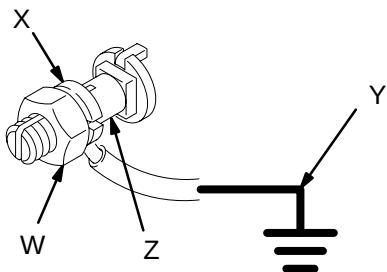

Fig. 2 _____
- **Pump:** Loosen the grounding lug locknut (W) and washer (X). Insert one end of a 12 ga (1.5 mm²) minimum ground wire (Y) into the slot in lug (Z) and tighten the locknut securely. Connect the other end of the ground wire to a true earth ground. See Fig 2. *To order a ground wire and clamp, order Part No. 222-011.*